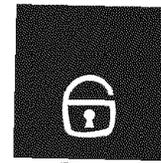

Fig. 1
**CONTROLS LOCK** - This feature allows the cooktop to be locked at anytime. Touch and hold the LOCK key pad for few seconds. If the cooktop is in use it will automatically shut off the cooktop to enter in the lock mode. A beep will sound and the Lock indicator light will glow (Fig. 2). Once locked, no other displays will glow and no Cooking Zones will activate. To turn the Controls Lock OFF, touch and hold the LOCK key pad for few seconds. A beep will sound, the Lock indicator light will turn OFF (Fig. 1) and the cooktop may be used normally.